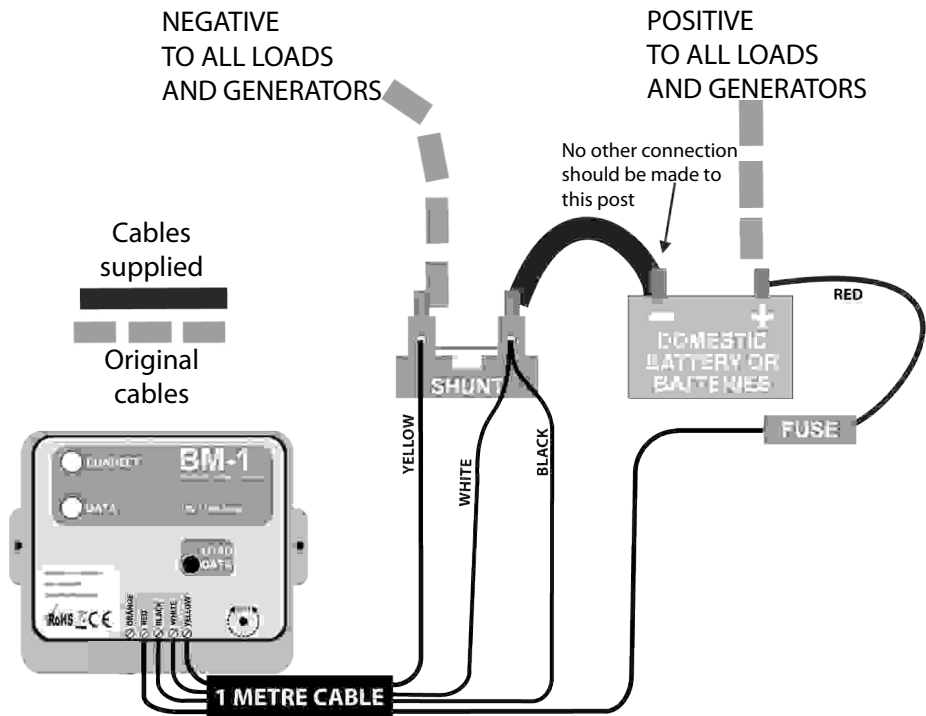

Figure 1 - Domestic battery only
- 1.** Connect the shunt cable to the monitor as shown on Figure 1. Be careful to connect the wires exactly as shown, noting that the black and white wires are joined at the shunt connection, and are connected separately at the monitor end of the cable.
- 4.** Disconnect all the wires from the negative terminal of the battery and connect to the shunt as shown on Figure 1. Ensure the shunt is positioned where it cannot come into electrical contact with other parts and ensure it will remain dry and free from contaminants. Also note that the shunt can get warm when heavy currents flow, so ensure it is secured in a position where its heat cannot affect other parts. Take care not to over tighten the connections to the shunt.
- 5.** Connect the Black and White wires and Yellow wire to the shunt as shown on Figure 1.